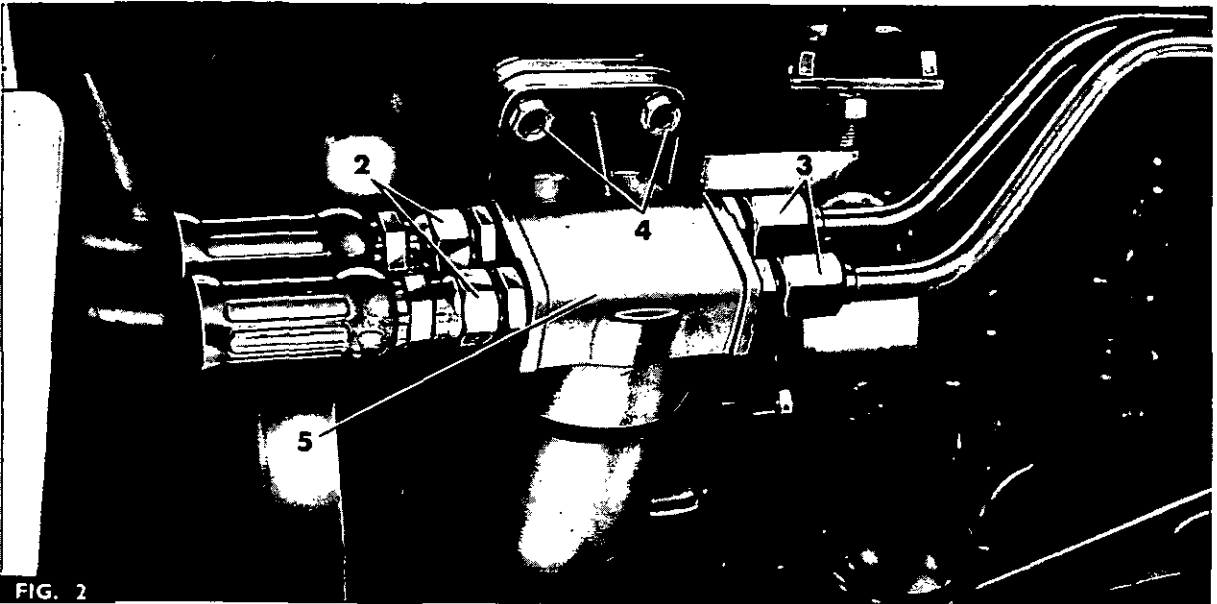

FIG. 2
1. Fig. 2. Mark one of the metal pipes (3) and its mating union on the filter head (5), then disconnect both metal pipes (3).
2. Disconnect both hoses (2) at the filter head.
4. Remove the two nuts, bolts and spring washers (4) securing the filter head (5) to its bracket.